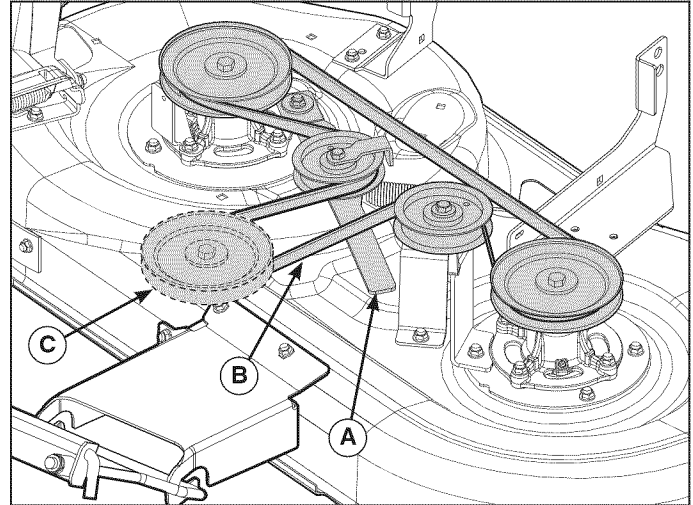

Figure 16
3. Pull the idler pulley lever (A, Figure 16) to release belt tension. Remove belt (B) from PTO pulley (C).
5. Pull the idler pulley lever (A, Figure 16) to release belt tension. Install belt (B) on the PTO pulley (C).